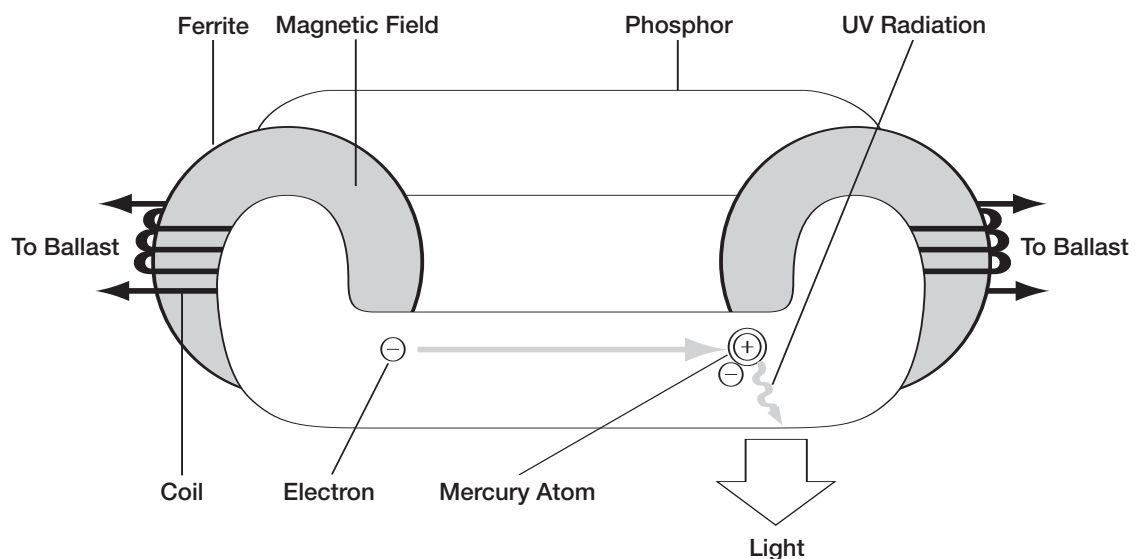

Figure 2: How does the ICETRON lamp work?
The ICETRON® QUICKTRONIC® lighting system incorporates an electrodeless fluorescent lamp which is excited by a radio frequency (RF) magnetic field. As a fluorescent lamp, ICETRON utilizes the same mechanism for light generation as found in conventional fluorescent lamps with internal electrodes. That is, the ultraviolet (UV) radiation generated by the internal discharge is converted to visible light by the phosphor coating on the inner wall of the lamp envelope. In contrast with conventional discharge lamps of fluorescent type, ICETRON does not require electrodes. Furthermore, the discharge current path forms a closed loop as shown in Figure 2 below.